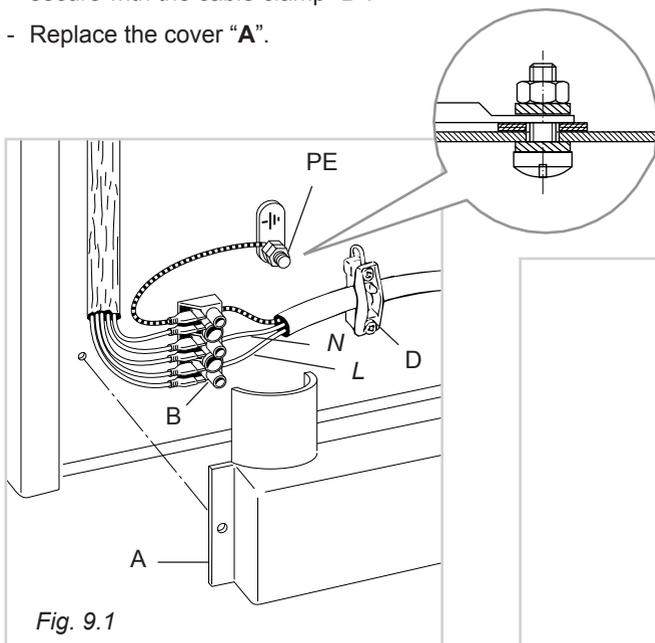
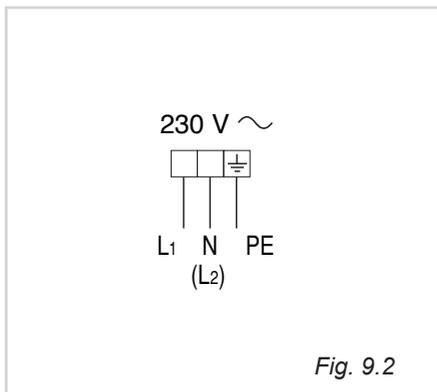

Fig. 9.1
Fig. 9.2
- Remove the screws securing the cover "A" on the rear of the cooker (fig. 9.1).
- Connect the wires to the terminal block "B" as shown in the diagram in figure 9.2; or connect the phase wires to the terminal block "B" and the earth wire to the terminal PE as shown in figure 9.1.